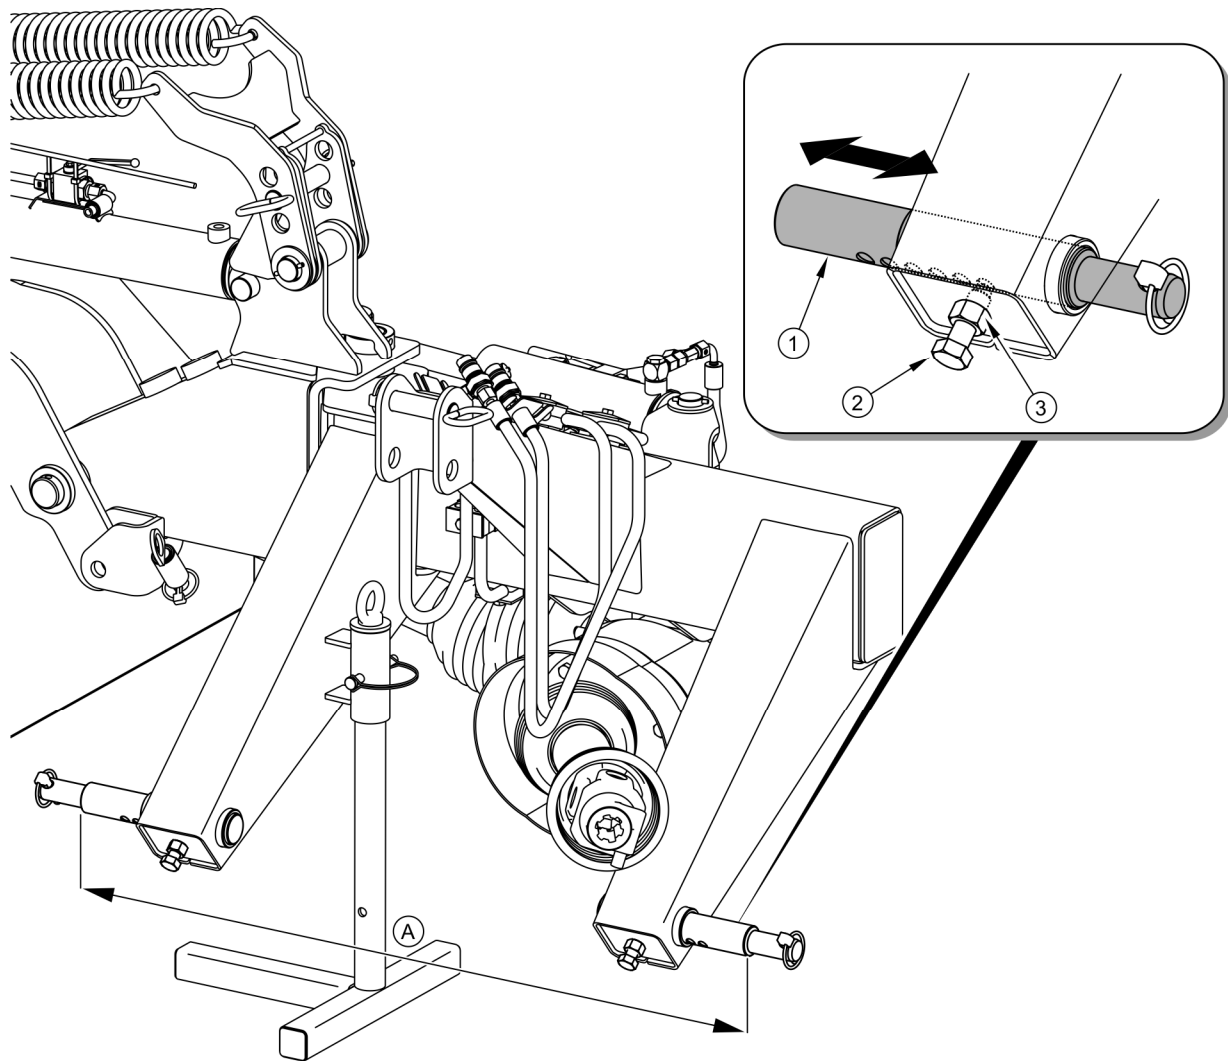

FIG. 4.2 Hitching to tractor
Lower pins (1) of the mower linkage enable spacing adjustment (figure 4.2) in range 795 - 970 mm. To change spacing of linkage pin spacing:
- loosen counter nut (1),
- unscrew setting bolt (2),
- move pin (1) to the right or the left to obtain the required spacing,
- block pin position with setting bolt (2) and counter nut (3).